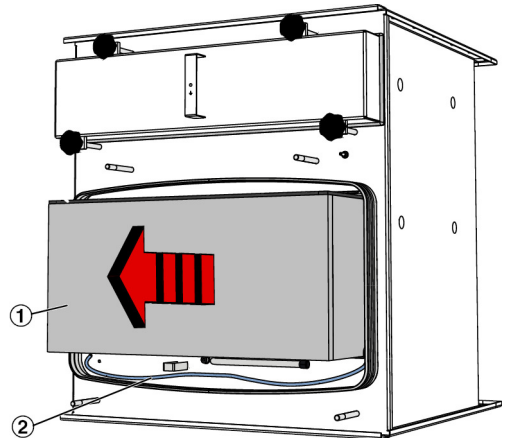

Fig. 10: Removing the filter
5. ▶ Loosen the filter (Fig. 10/1) from the sealing surface using the extraction device (Fig. 10/2) and remove it from the filter casing towards the front.
Set the filter (Fig. 10/1) with the seal (Fig. 10/2) facing upwards into the clamping frame and push it in up to the rear travel stop.